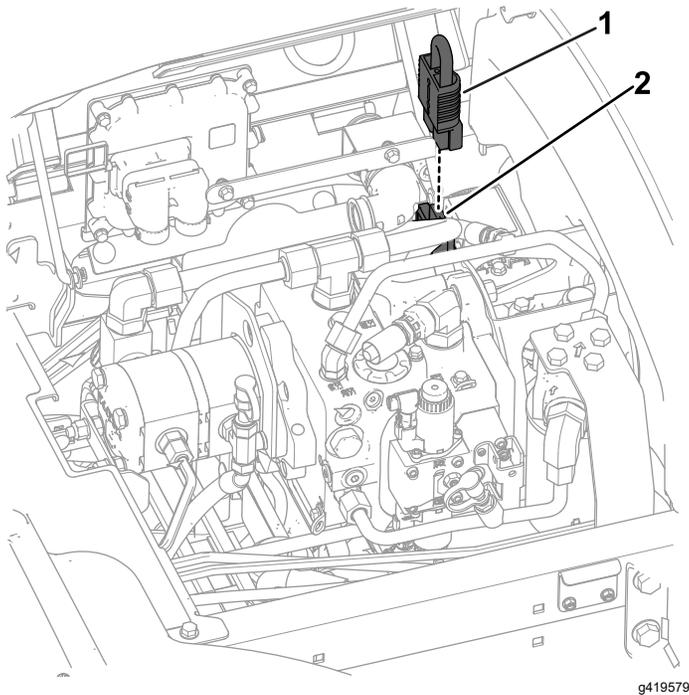

Figure 31
1. Apply dielectric grease to the contact surfaces of the battery disconnect jumper (Figure 31).